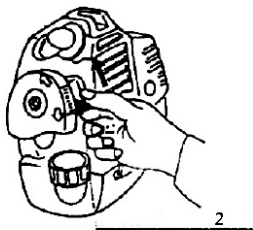

Fig. 9
• Move the choke lever until the completely closed position (marked side). When the fuel is ready and the motor is heated move the air lever until the completely opened position (marked side) (Fig.9)